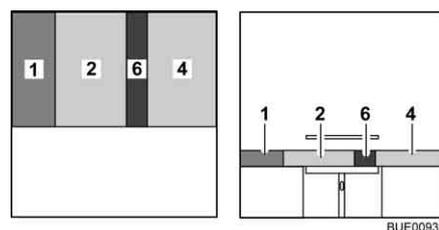

Fig. 97 After conversion
- Place the back cushion (Fig. 97,1) between the seat cushion and the wall.
- Place the additional cushion (Fig. 97,6) between the seat cushions (Fig. 97,2 and 4).